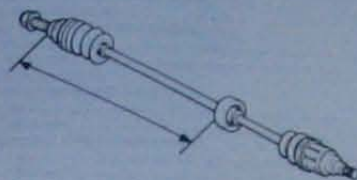

Fig. 8.7 Vibration damper positioning dimension (Sec 5)
- 11 Before installing the driveshaft examine the swivel hub and transmission oil seals for signs of wear or damage. If necessary the seals can be renewed as described in Chapters 7 and/or 10 (as applicable). Inspect the inner constant velocity joint retaining circlip for signs of damage and renew if necessary. On the right-hand driveshaft also ensure that the vibration damper (where fitted) is correctly positioned as shown in Fig. 8.7.
- 4 Slide the damper onto the driveshaft ensuring that its retaining clip side is facing the inner constant velocity joint, and position it as shown in Fig. 8.7.